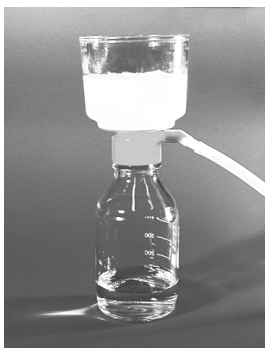

Figure 2 Correct use of the NucleoBond® Bottle Top Filter
For **NucleoBond® PC 100, 500, 2000, BAC 100** place one filter in a funnel of appropriate size. For **NucleoBond® PC 10000** put a folded filter of type 1 into a folded filter of type 2 and place the combination in a funnel. The two types of filters differ in pore size to allow a fast and complete removal of large amounts of precipitate. Wet the filter(s) with a few drops of Equilibration Buffer N2 and load the bacterial lysate onto the wet filter(s). Either collect the flowthrough in a separate vessel or position funnel and filter directly on top of the **NucleoBond® Column** to clear and load the lysate in one time saving step (see Figure 2).
2) Use **NucleoBond® Bottle Top Filters** for a very fast and complete, vacuum assisted filtration. Two different types of filters can be ordered separately (see ordering information) for NucleoBond® PC 2000 (Type 1) or NucleoBond® PC 10000 (Type 2). Attach a bottle top filter to a suitable flask (e.g., Schott), load the bacterial lysate and apply the vacuum (see Figure 2). The lysate is cleared and sterile filtered within 3–5 minutes and can then be loaded onto the NucleoBond® Column.